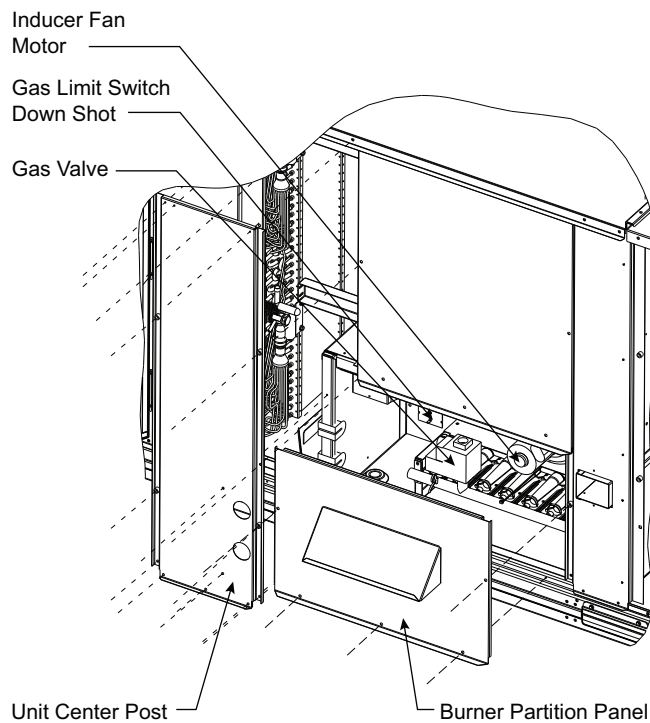

Fig. 52 — Burner Partition Pane and Unit Center Post
5. Remove the screws at the base of the burner partition panel (see Fig. 52) and slide out the panel.
3. Remove the unit center post (see Fig. 52).